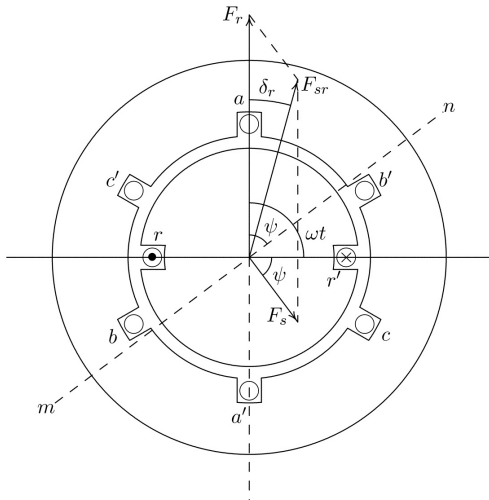

Figure 1: Elementary two-pole three-phase synchronous generator
- Note that the coils  $aa'$ ,  $bb'$ , and  $cc'$  are  $120^\circ$  apart. Axis of  $a$ -coil is the x-axis as shown in the Figure 1.
- Depending on the load, this current will have a phase angle, say  $\psi$  (see Figure 1) lagging the generator voltage  $e_a$  which is along the x-axis.